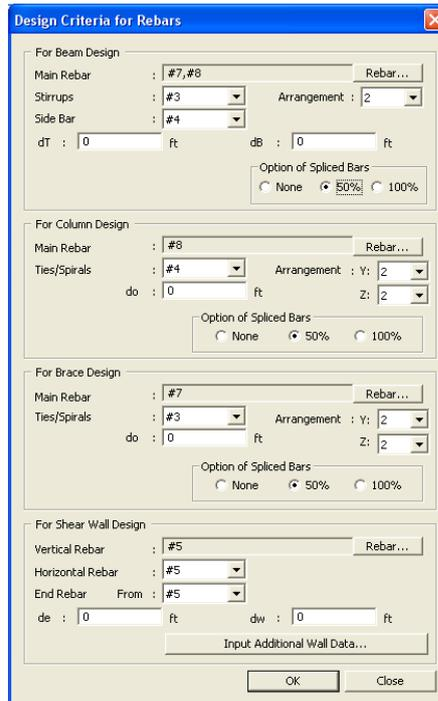

Figure 37 : Design Criteria for Rebars
- Design > Concrete Design Parameter > Design Criteria for Rebars (Refer Figure 37)